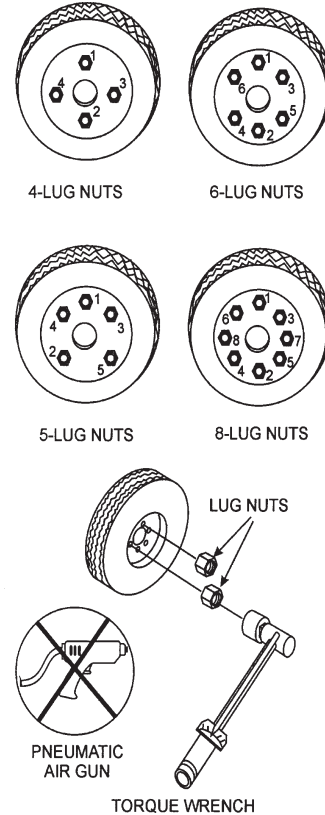

Figure 33. Wheel Lug Nuts Tightening Sequence
2. Torque all lug nuts in sequence. See Figure 33. **DO NOT** torque the wheel lug nuts all the way down. Tighten each lug nut in 3 separate passes as defined by Table 10.